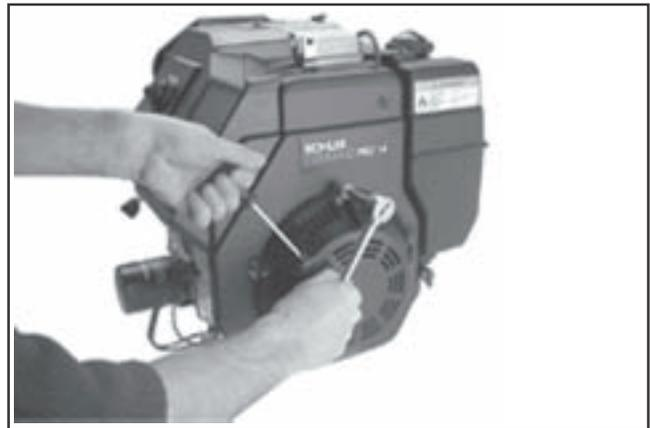

Figure 7-11.
9. Install the starter to the engine blower housing. See Figure 7-11.